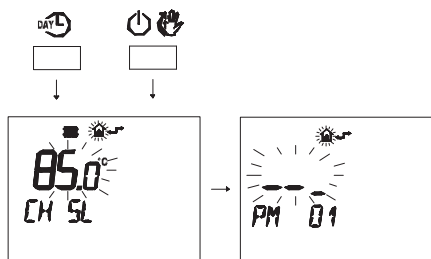

Fig. 8.19
- Press buttons  and  at the same time to enter transparent programming (Fig. 8.19).